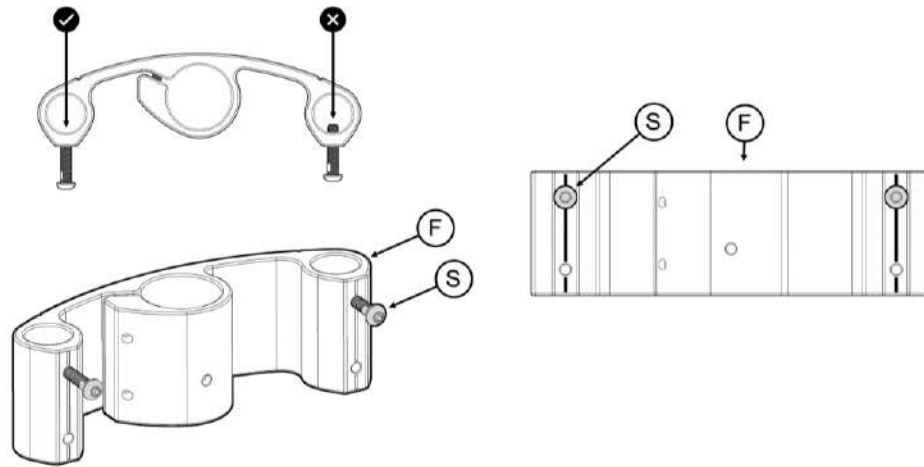

FIGURE 3
3. Partially thread bolt **S** into upper holes in **F**. Do not thread too far – bolt should not block assembly of legs. Lay main support **F** on flat surface so markings can be seen. **FIGURE 3**